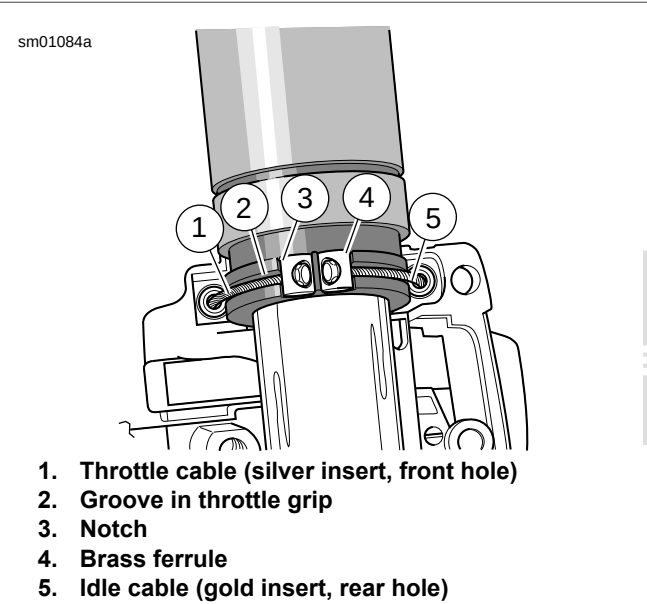

Figure 6-145. Throttle Cable Attachment
5. See Figure 6-145. Position lower switch housing beneath the throttle control grip. Install the brass ferrules (4) onto the cable so that the end fittings seat in the ferrule recess. Seat the ferrules in their respective notches (3) on the throttle control grip. Verify that the cables are captured in the grooves (2) molded into the grip.